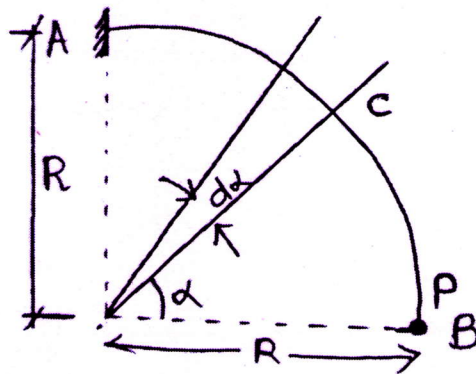

Fig. 6
- 7 a) Determine the deflection at the free end for a quarter circular beam of radius R , fixed at end A and free at end B. It carries a vertical load P at its free end. Sketch the shear force, bending moment and torsional moment diagram for the beam in Fig. 6 (12)